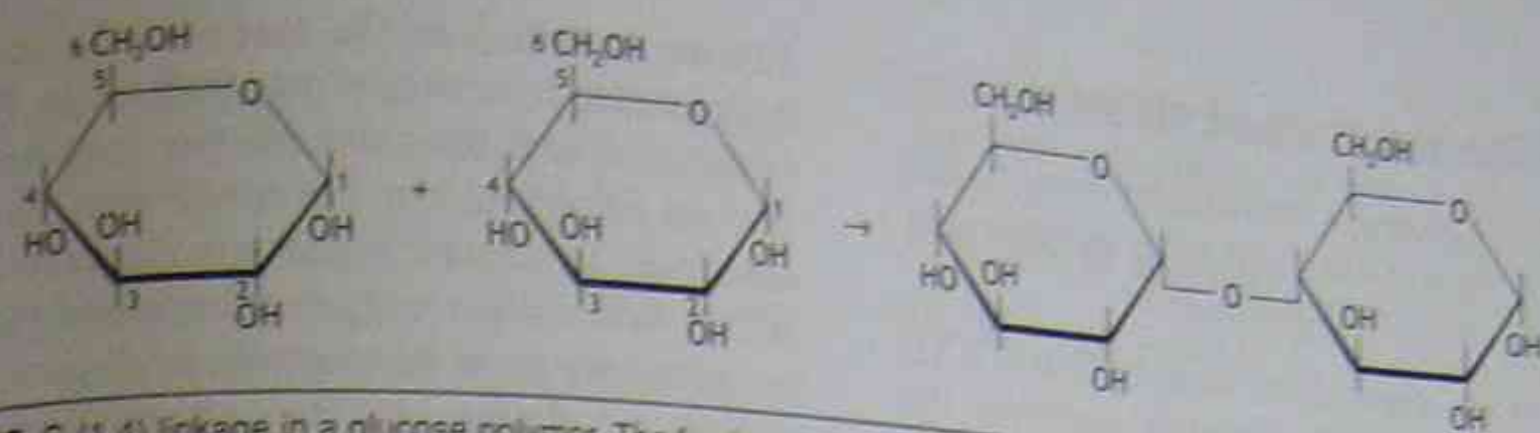

Figure 6.17 C-(1,4) linkage in a glucose polymer. The fundamental structure of glycogen is this 'amylose chain'.
The presence of five hydroxyl (OH) groups allows condensation polymers to form. The backbone of the polymers is between the first carbon atom on one glucose molecule and the fourth carbon atom on the second molecule (see Figure 6.17).